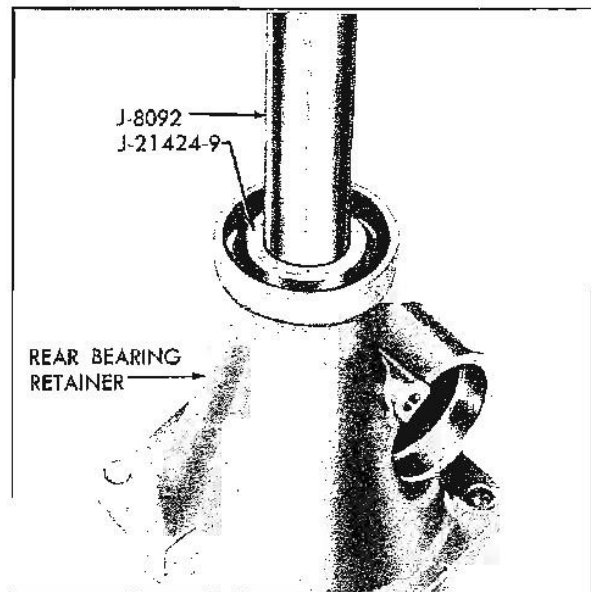

Fig. 7B-33 Installing Rear Bearing Retainer Bushing
8. Install new bushing from rear, using installer J-21424-1 and handle J-8092 (Fig. 7B-33).